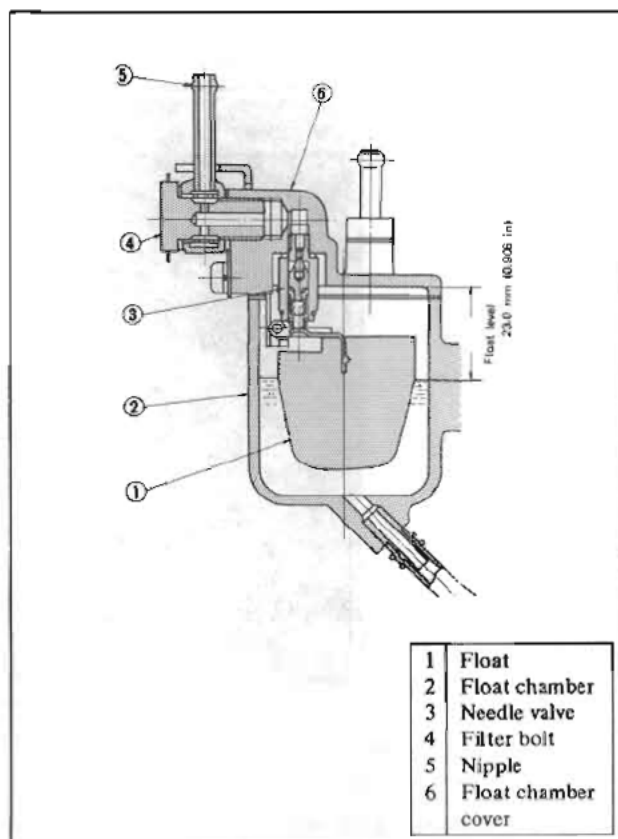

Fig. EF-43 Adjustment of float level
3. The float level is correct if dimension "H" in Figure EF-43 is 14 to 15 mm (0.5512 to 0.5906 in) under the foregoing conditions. If the dimension is not correct, adjust by bending float lever.